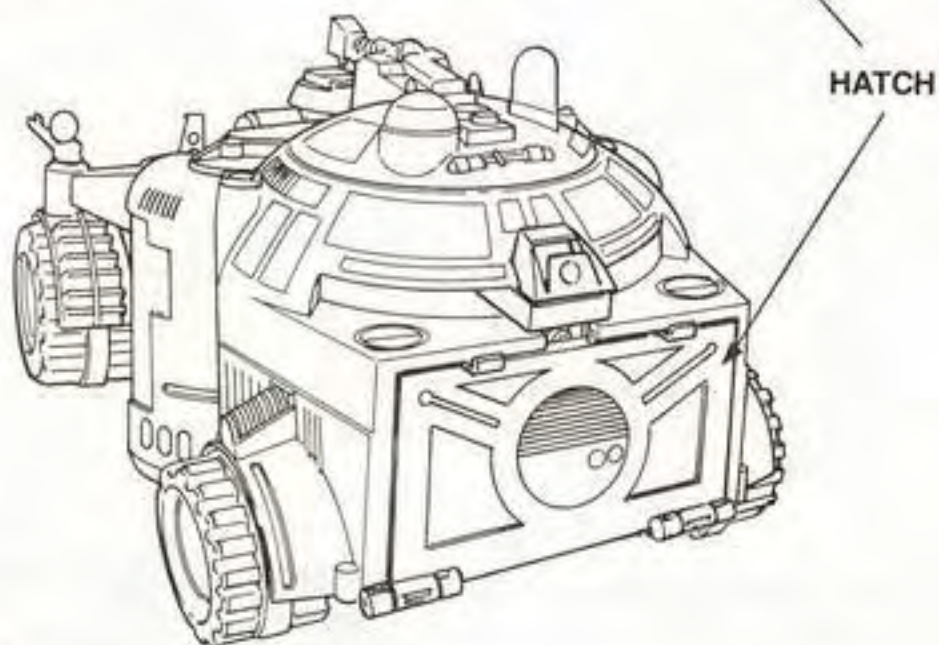

FIGURE 5
3. TO STORE LIFT IN HATCH: Remove ROBOT from LIFT. Swing LIFT aside and open HATCH. Then lower LIFT and push LIFT HANDLE back into CUTOUT. Close HATCH. (Figure 5)